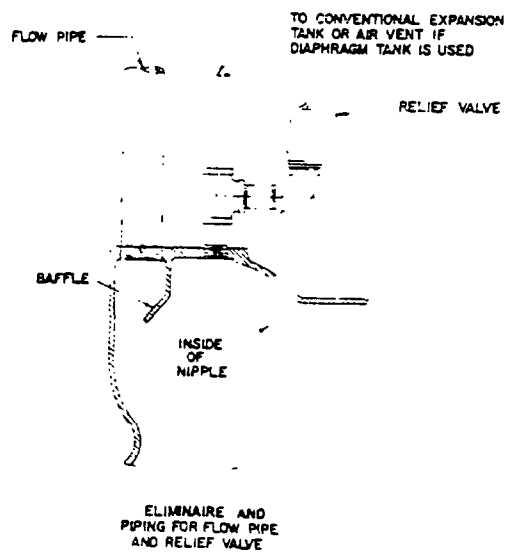

FIGURE 4
3. Install relief valve and fittings in top of front section (See Fig. 4), making sure the direction of the discharge is away from controls.